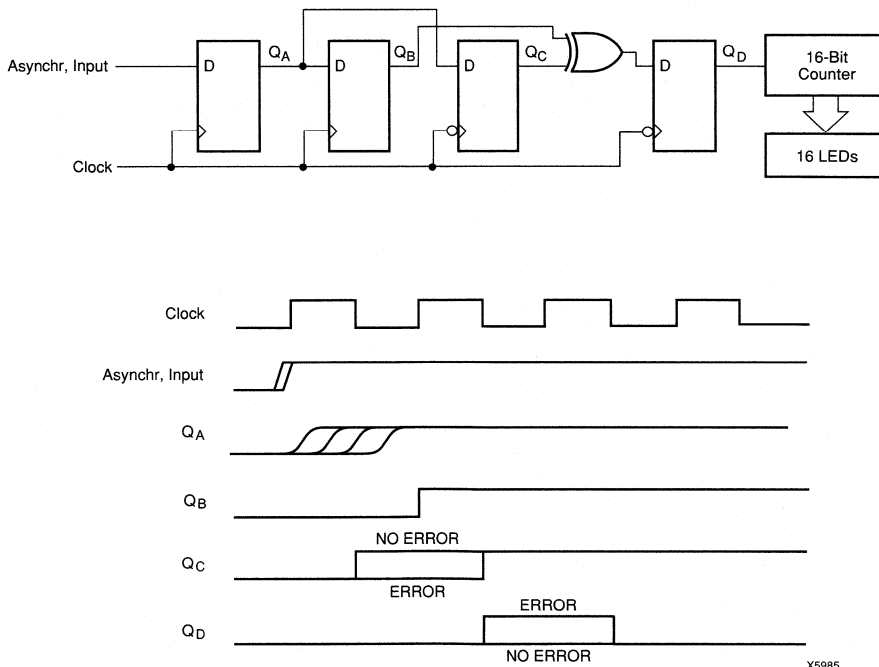

Figure 1: Test Circuit and Timing Diagram
Since metastability can only be measured statistically, this data was obtained by configuring several different Xilinx FPGAs with a detector circuit shown in Figure 1. The flip-flop under test receives the asynchronous ~ 1 -MHz signal on its D input, and is clocked by a much higher manually adjustable frequency. The output QA feeds two flip-flops in parallel, one (QB) being clocked by the same clock edge, the other (QC) being clocked by the opposite clock edge. When clocked at a low frequency, each input change gets captured by the rising clock edge and appears first on QA, then, after the falling clock edge, on QC, and finally, after the subsequent rising clock edge, on QB.
The circuit of Figure 1 was implemented in five different Xilinx devices: two cutting-edge devices using 0.5 micron, 3-layer-metal technology, the XC4005E-3 and the XC3142A-09, one device, the XC5206 using 0.6 micron, 3-layer-metal, and, for comparison purposes, also in two older-technology devices, the XC4005-6 and the XC3042-70.